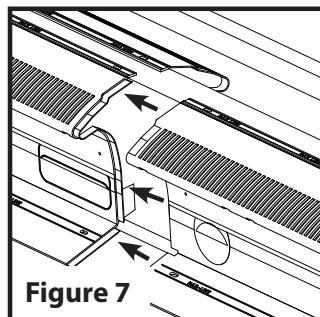
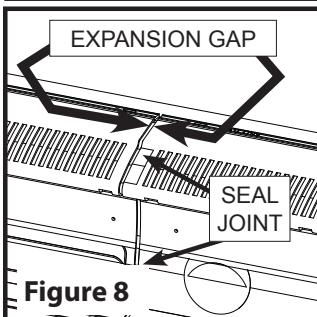

Figure 7
Figure 8
4. The TRV-4 design includes alignment tabs on each end (one male and one female). (See Figure 7) Leave $\frac{1}{8}$ " gap between each vent to allow for expansion in hot weather. (See Figure 8) Apply sealant on each butt joint to ensure the joint is sealed. For ease of installation and proper alignment it is recommended to start and complete one side of the ridge board and begin on the other side going the opposite direction. This will ensure the entire length of TRV-4 is as straight as possible and will prevent leaks.